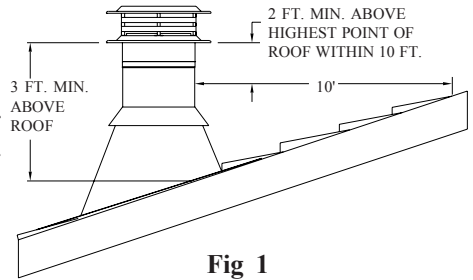

Fig 1
The National Fire Protection Association Standard #211 states: “Chimneys shall extend at least three feet above the highest point where it passes through the roof of a building, and at least two feet higher than any portion of a building within ten feet.” (Fig 1) 10"-16" diameter DuraTech Chimney may be installed up to 40 feet high when using a Support Box, and up to 30 feet high when using a Tee Support. If the chimney extends more than 4 feet above the roof, an Extended Roof Bracket must be used (see page 12). Due to the overlap of the joints, subtract 1-1/4 inches from each Chimney Section’s height to calculate installed height.
11. **Finish Top:** Apply a non-hardening waterproof sealant around the chimney at the point where the Storm Collar will meet the chimney just above the Flashing, and also along the vertical seam of the chimney pipe, where it is exposed to the weather. (Figures 12 and 13). Slide the Storm Collar down over the chimney to the top of the Flashing. Tighten the bolts of the Storm Collar and seal the Storm Collar against the sealant. After installing sufficient Chimney Sections to meet the height requirement as shown in Figure 1, attach the Chimney Cap onto the top of the chimney by setting the female end of the Cap onto the male end of the last chimney section. Secure the Cap by using (6) sheet metal screws provided. Do not push down from the top portion of the cap as this may damage the cap. Push from the lower section of the Cap if needed. The Chimney Cap can be removed for chimney cleaning as described in the Chimney Maintenance section of the instructions. Use an Extended Roof Bracket if the chimney extends more than 4 feet above the